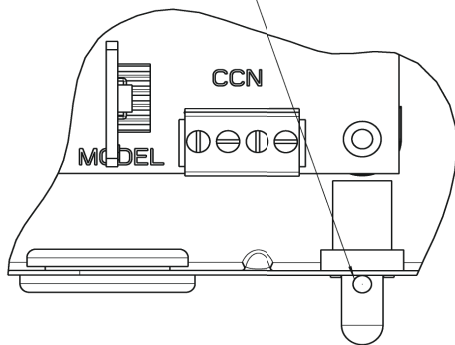
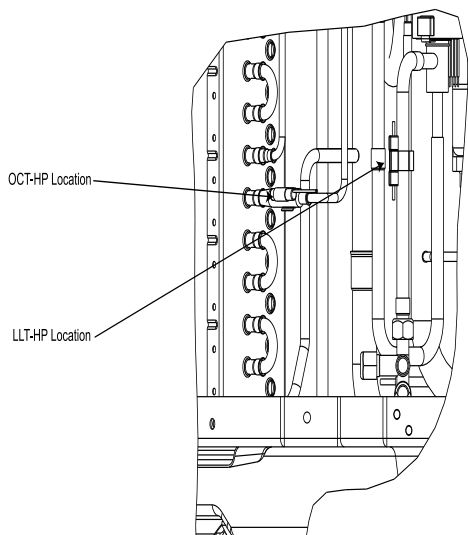
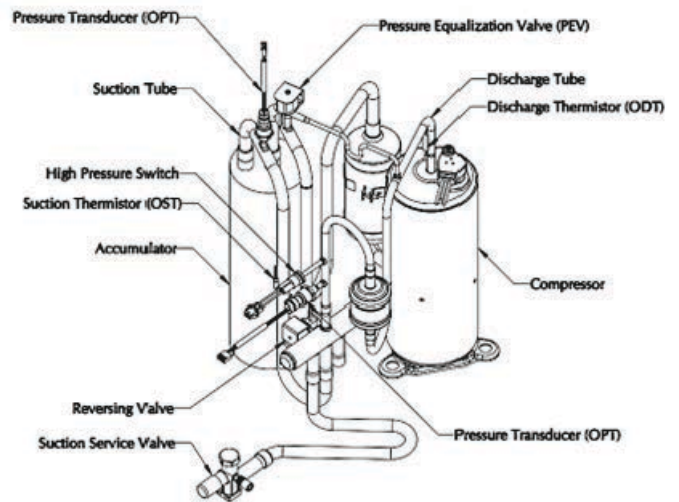

Fig. 32 – OAT Thermistor Mounting Location
Fig. 33 – OCT-HP and LLT-HP Thermistor Mounting Locations
Fig. 34 – OST Thermistor and ODT Thermistor Mounting Locations
**IMPORTANT:** The OAT, OCT/LLT, OST, and ODT thermistors should be factory mounted in the final locations. Check to ensure thermistors are mounted properly (See Fig. 32, Fig. 33 and Fig. 34).
The OAT is a 10K thermistor used for multiple system operations. It provides the outdoor air temperature to the primary control module and Evolution™ Connex™ System Control. It is essential for controlling the system and is used in almost all modes of operation. The sensor is mounted in the control box per Fig. 32. See Table 8 for proper resistances.
The OCT-HP Thermistor is a 10K thermistor used for multiple system operations. This sensor is connected to the PCM through a shared 5-pin connector with OAT-HP and provides the coil temperature to the primary control module and Evolution™ Connex™ System Control. It is used for low ambient operation, defrost control, and other system operations. The sensor must be securely mounted to the stub tube on the outdoor coil. Note that there is only one stub tube used and on most units it is the bottom circuit. See Fig. 33 for proper placement. See Table 8 for proper resistances.
The LLT-HP is a 10K thermistor used for multiple system operations. LLT-HP is connected to the PCM through a separate 3-pin connector and provides to the primary control module and Evolution™ Connex™ System Control. It is used for heating control and subcooling calculation during charging. The sensor must be securely mounted to the liquid tube in between the liquid service valve and the EXV. See Fig. 34 for proper placement. See Table 8 for proper resistances.
The OST is a 10K thermistor used for assisting in EXV control and must be secured on the suction tube and aligned longitudinally to the vertical surface of the tube axis (see Fig. 34). See Table 8 for proper resistances.
The ODT is a 50k thermistor used for determining discharge superheat and protecting the compressor from over-temperature operation. Proper mounting is required to reduce the influence of ambient temperature and provide accurate tube temperature. ODT is located on the compressor discharge stub-out (see Fig. 34) and should be inside the compressor sound blanket. See Table 9 for proper resistances.